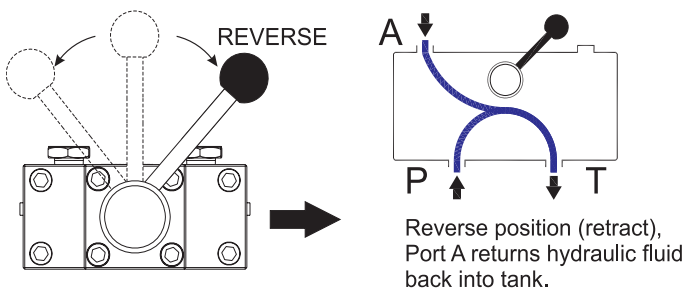

Figure 10. Control Valve Lever (Reverse Position)
3. In the **reverse (retract)** position, “**PORT A**” returns hydraulic fluid back into tank (Figure 10) and the hydraulic cylinder retracts.